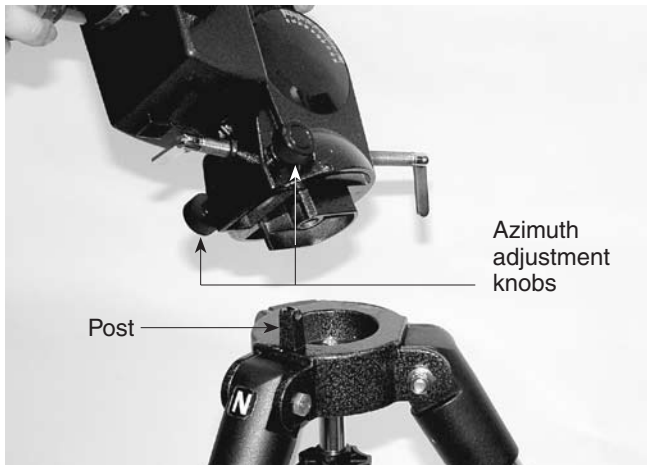

Figure 2. Orient the equatorial mount so that the post on the tripod head lines up between the azimuth adjustment knobs on the equatorial mount.
2. Place the base of the equatorial mount into the tripod head. Orient the equatorial mount so that the post on the tripod head lines up between the azimuth adjustment knobs on the equatorial mount (Figure 2). You may need to loosen the azimuth adjustment knobs on the equatorial mount in order to fit the mount onto the tripod head.